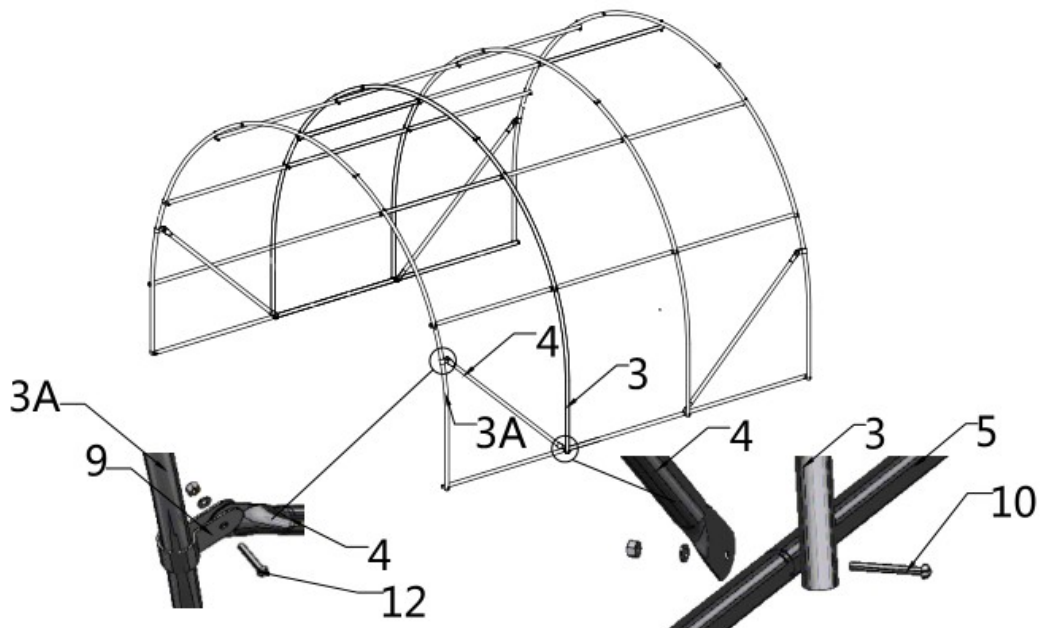

Figure 7
- Connect diagonal bracing bar (#4) on the first and last span between the Lower rafter tube (#3A) and (#3) with tube clamp (#9), use bolt (#12) and (#10) (figure 7)
- (4) Diagonal bracing bar (#4)